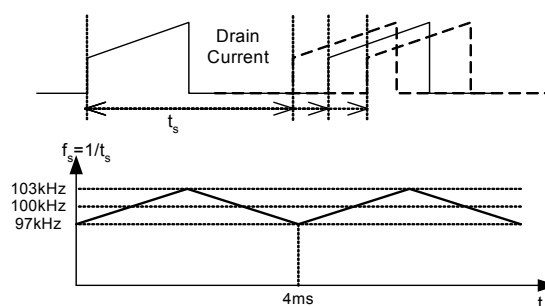

Figure 10. Frequency Modulation Waveform
7. Frequency Modulation : Modulating the switching frequency of a switched power supply can reduce EMI. Frequency modulation can reduce EMI by spreading the energy over a wider frequency range than the bandwidth measured by the EMI test equipment. The amount of EMI reduction is directly related to the depth of the reference frequency. As can be seen in Figure 10, the frequency changes from 97KHz to 103KHz in 4ms for the FSDH321 (48.5KHz to 51.5KHz for FSDL321). Frequency modulation allows the use of a cost effective inductor instead of an AC input mode choke to satisfy the requirements of world wide EMI limits.